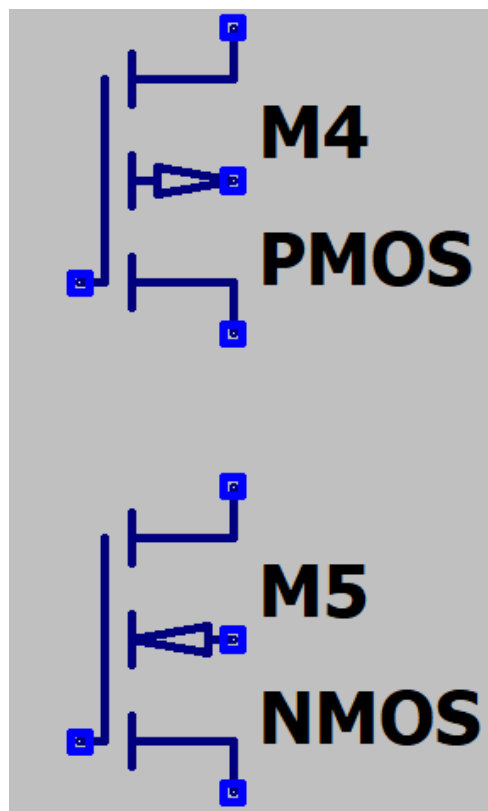

Fig. 2. PMOS and NMOS transistors
3. Place the PMOS transistor above the NMOS transistor as in Fig. 2.